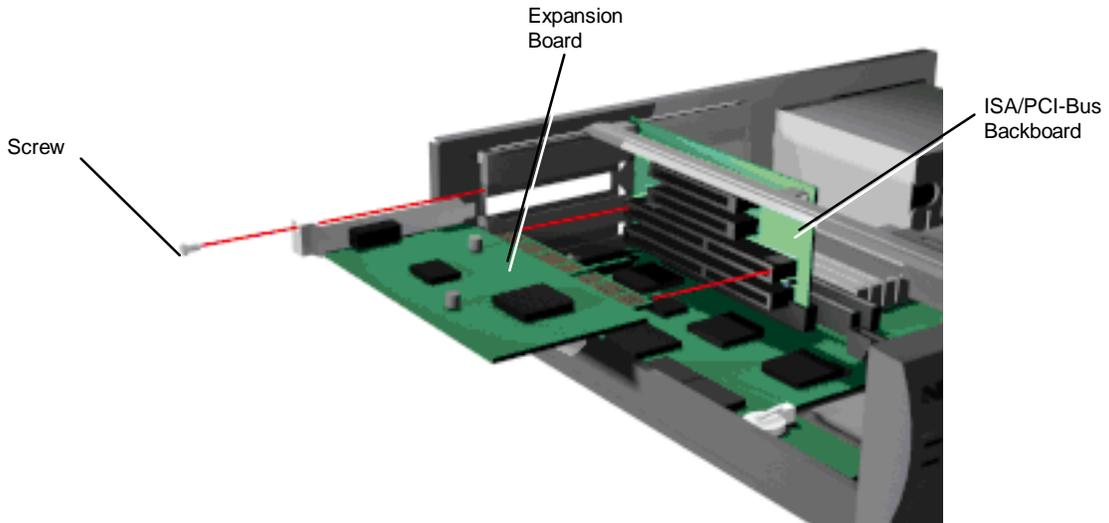
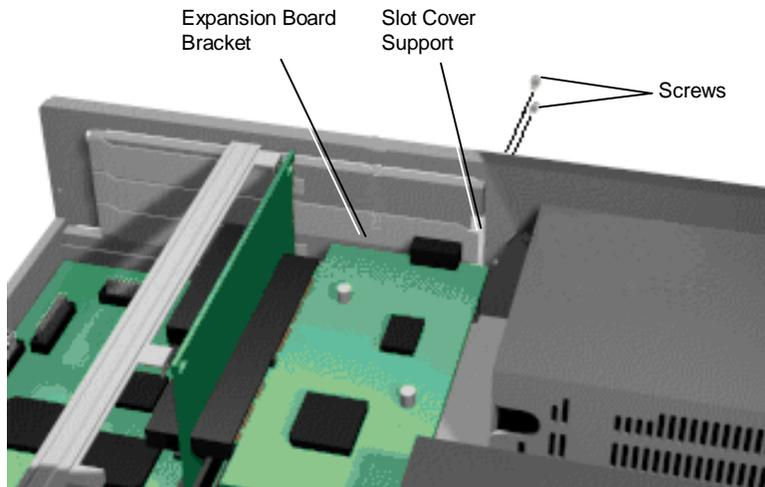

Figure 5-3 Expansion Slot Screw
Figure 5-4 Inside Expansion Slot Screw
Remove any installed expansion board(s) using Figure 5-3 through Figure 5-4 and the following steps.
3. Remove the screw from the expansion slot bracket (see Figure 5-3).
To remove a board on the inside of the PCI/ISA backboard, remove the two slot cover support screws shown in Figure 5-4. The slot cover support secures the expansion board in place.